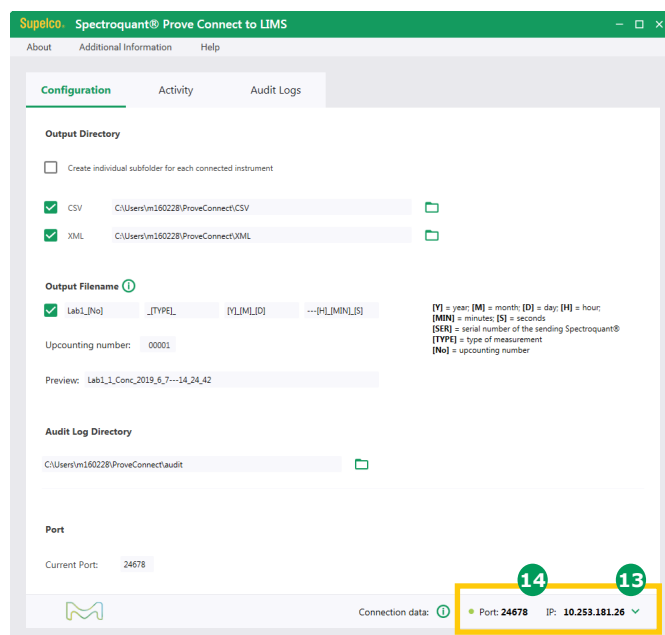

Figure 29 - Screenshot of Prove Connect for setup of network connection
7. Enter the IP address **13** and Port **14** (Figure 29) of the computer Prove Connect is running on into the Prove instrument.
9. Enter the IP address 13 (Figure 29) into the instrument.
12. Enter the Port 14 (Figure 29) into the instrument.